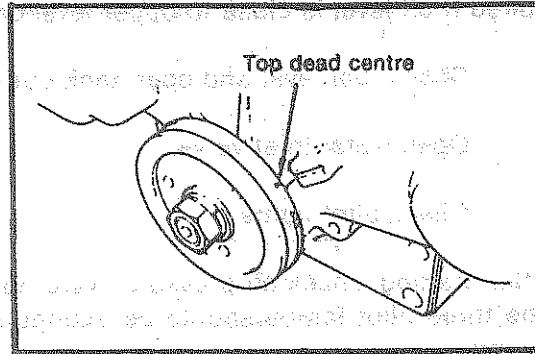

Fig. 26
c) The top dead centre position of no. 1 cylinder can be checked by means of the alignment markings on the valve cover and the crankshaft pulley (Fig.26).